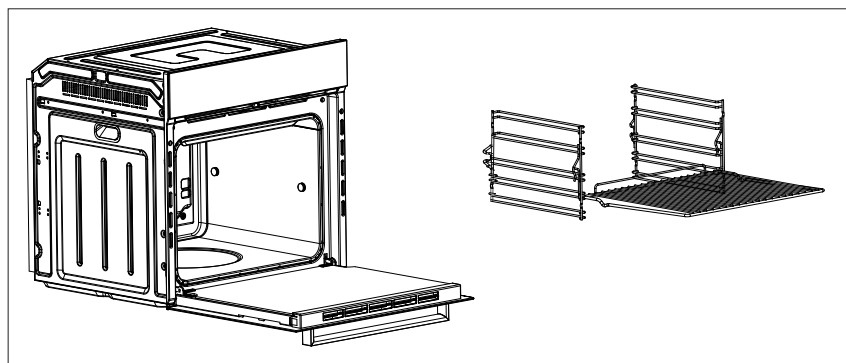

Figure 2.
- › Remove the side racks [see section below and Fig.2]
- › Finally, refit the side racks [See below and Fig.2]